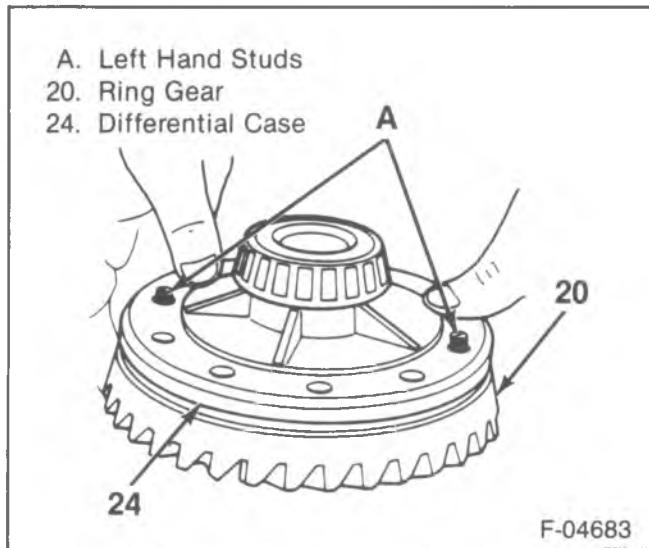

Figure 17—Ring Gear Studs
- 2. Side gear thrust washers (19) to the side gears (22).
- 3. Side gears (22) to the differential case (24).
- 4. Pinion gears (21) to the differential without the thrust washers (20).
- 5. Pinion thrust washers (20).
- 6. Ring gear (7) to the differential case (24).
- Thread two left-hand threaded studs into the ring gear on opposite sides (figure 17).